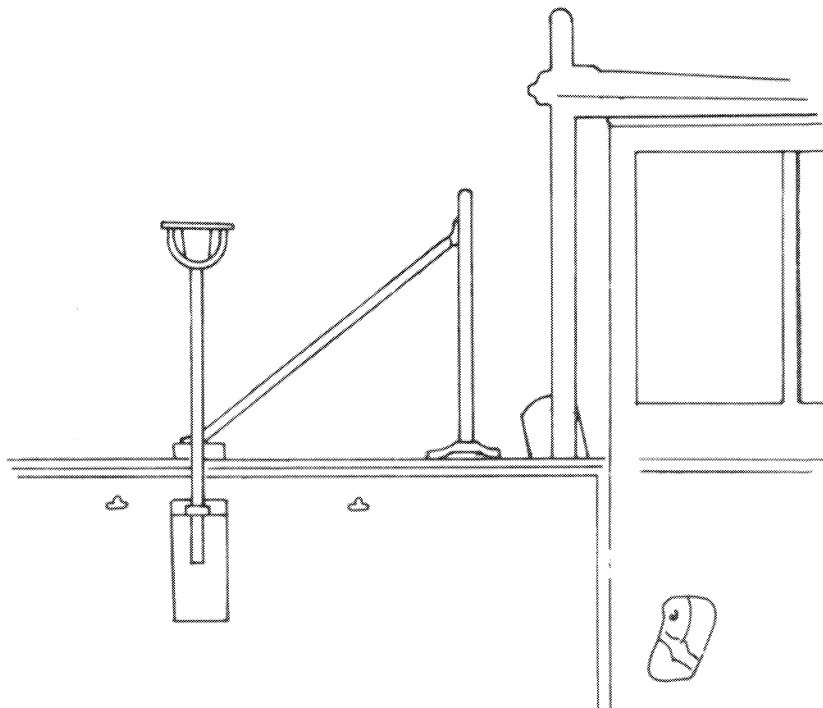

Fig. 13 Alignment of top ring support
1. Insert support, antenna (5985-99-637-0876) into bracket, support antenna mounting (5985-99-637-0879) already fitted to the righthand side of the vehicle. The top ring support must lie along the vehicle as in fig. 13.
4. Fit the side antenna support and extensions into the mounting on the side of the vehicle - one of the flats on the outer extension should butt up against the aligning block on the mounting. When correctly assembled the top ring support should lie along the vehicle as in fig. 13. Secure using the existing bolt.
- c. $\frac{3}{4}$ ton vehicles: The side antenna mounting should be orientated as indicated in fig. 13. This is to ensure the antenna feeder cable has maximum clearance from the mounting.